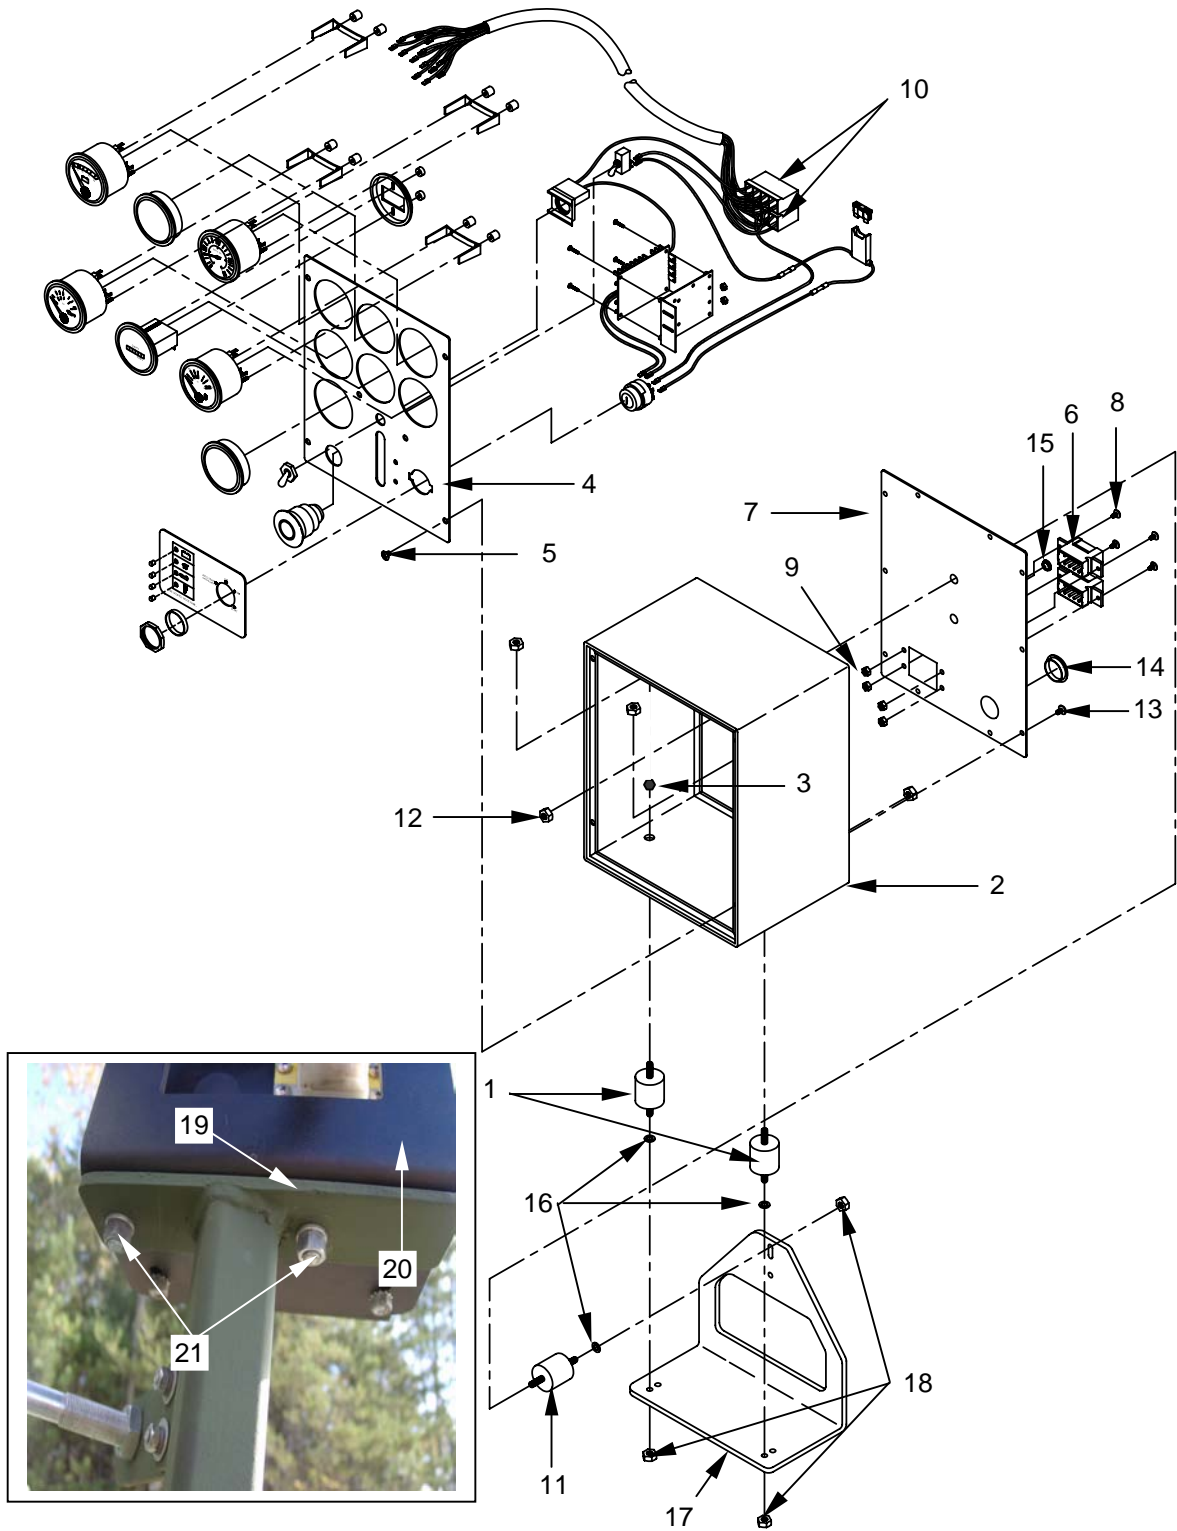

Figure 8. Reassembly of the Control Panel
11. Install bottom isolation mounts (**figure 8, item 1**), if enclosure (**figure 8, item 2**) was replaced, and secure with hex nuts (**figure 8, item 3**).
13. Install the frontpanel (**figure 8, item 4**) onto the enclosure (**figure 8, item 2**) with four hex head pan screws (**figure 8, item 5**).
14. Install the 8-position male connectors (**figure 8, item 6**) to the backpanel (**figure 8, item 7**) with four cross-tipped screws (**figure 8, item 8**) and nuts (**figure 8, item 9**).
15. Connect the internal wire harness (**figure 8, item 10**) to the 8-position male connectors (**figure 8, item 6**) on the inside of the backpanel (**figure 8, item 7**).
16. Install rear isolation mount (**figure 8, item 11**) onto backpanel (**figure 8, item 7**) and secure with hex nut (**figure 8, item 12**).
18. Install the back panel (**figure 8, item 7**) onto the enclosure (**figure 8, item 2**) with ten slotted hex head screws (**figure 8, item 13**).
19. Install the large (**figure 8, item 14**), and small (**figure 8, item 15**) dome plug into the backpanel (**figure 8, item 7**).
20. Place washers (**figure 8, item 16**) onto the isolation mount studs and position control panel onto the bracket (**figure 8, item 17**) so that the isolation mount studs pass through the holes in the bottom and at the rear of the bracket (**figure 8, item 17**).
21. Install nuts (**figure 8, item 18**) onto the bottom and rear isolation mount studs.
22. Place assembled control panel onto the control post bracket (**figure 8, item 19**) and install two hex bolts through the control panel bracket (**figure 8, item 20**). Secure with flat washers and hex nuts (**figure 8, item 21**).